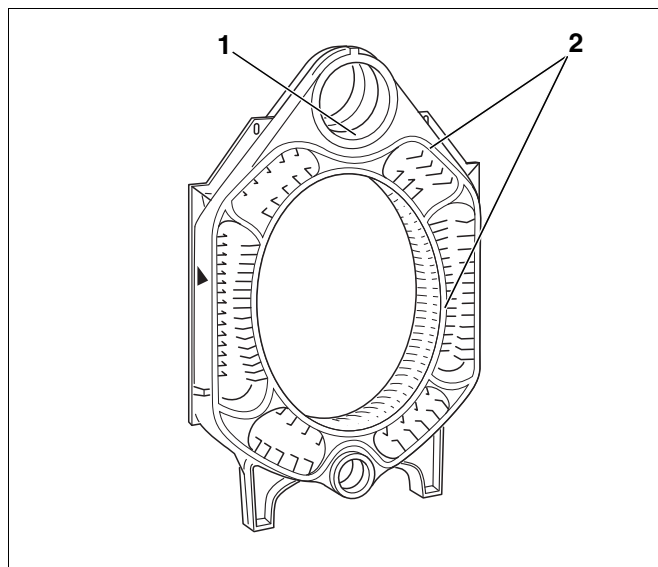

Fig. 17 Preparing the centre section
- ▶ Evenly coat the hub sealing faces with sealant (Fig. 17, [1]).
- ▶ Coat the packing springs with adhesive (adhesive base) (Fig. 17, [2]).